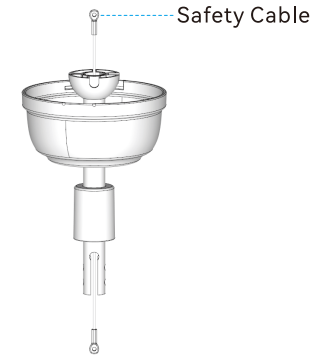

Fig. 2.1
- 2.1 Assemble the downrod as shown in Fig. 2.1. Insert the downrod through the canopy and wiring cover.